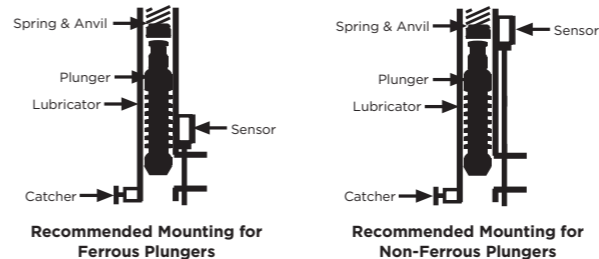

Figure 1
- Non ferrous plunger types may need the sensor mounted higher to detect the motion of the anvil and spring assembly due to the lack of magnetic fields created directly by these plungers. See Figure 1